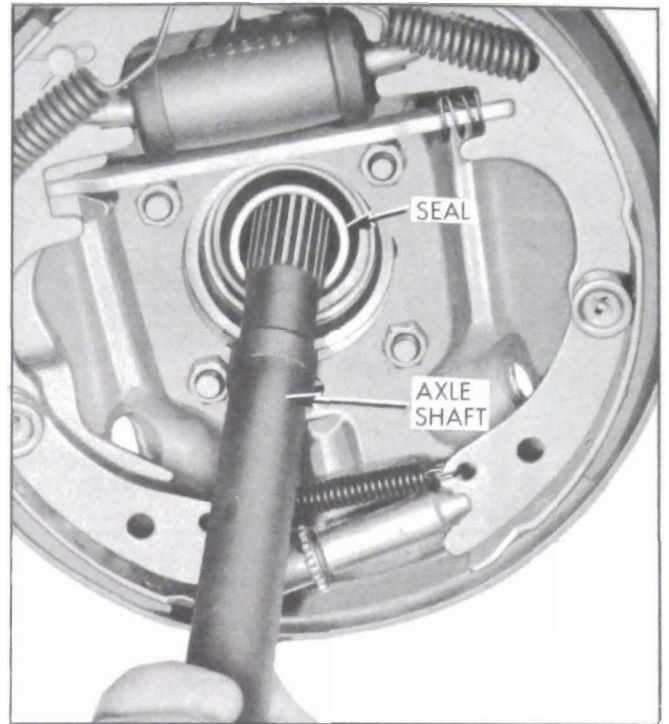

Figure 6-8—Removing Axle Shaft Seal
2. Using axle shaft as a lever, push down on shaft until seal is pried from housing. See Figure 6-8.